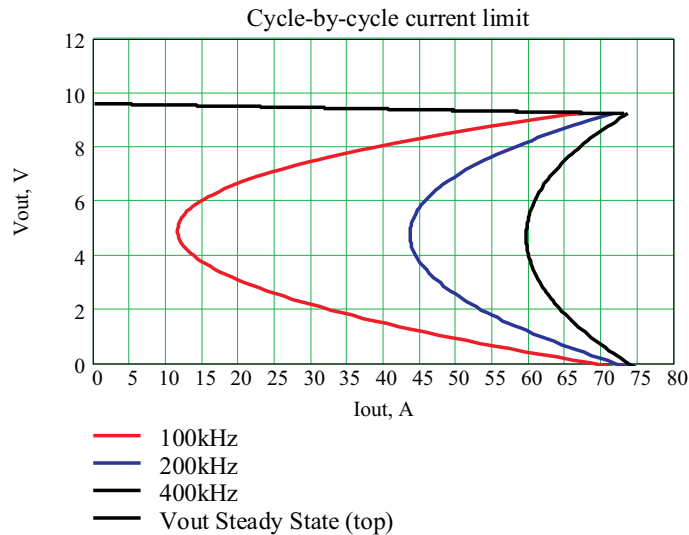

Figure 39. Output Voltage at Cycle-by-Cycle Current Limit
Figure 39 shows the output voltage as function of the average load current limited by the cycle-by-cycle current limit threshold after substituting (9) into (10). These plots are generated for the following conditions: $V_{IN} = 48\text{ V}$, $N_{TR} = 5$, $L_O = 0.1\ \mu\text{H}$, $L_m = 75\ \mu\text{H}$, $I_{O(lim)} = 73\text{ A}$, $R_{pr} = 25\text{ m}\Omega$ and $R_{SEC} = 4\text{ m}\Omega$ at $F_{SW} = 100\text{ kHz}$, 200 kHz and 400 kHz . This fold back type of behavior limits the start-up capability of unregulated IBC. One can see that at 100-kHz switching frequency and 0.5 duty cycle (i.e., $V_O \approx 5\text{ V}$), only about 11.5 A average current is available to charge the output capacitor while at 400 kHz, the charge current can be as high as 60 A. The plots in Figure 39 show the required average charge current reflected to the primary side of the converter with $N_{TR} = 5:1$ for different output capacitor values depending on the selected soft-start time, which do not count extra current drawn by the load itself. Therefore the significant output inductor current ripple not only can trip the peak current mode control current limit circuit to reduce the average output inductor current available to charge the output capacitor, but also can cause the hiccup or latch off of the converter to prevent it from starting at all. Increasing the current limit threshold to allow the normal start up of the converter can cause potential overstress if for some reason the load exceeds its nominal current during the steady state operation.